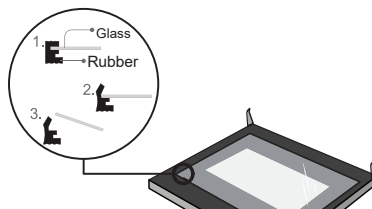

Fig. 6
6. After pulling out the inner glass, remove the middle layer of glass as shown in Fig. 6.